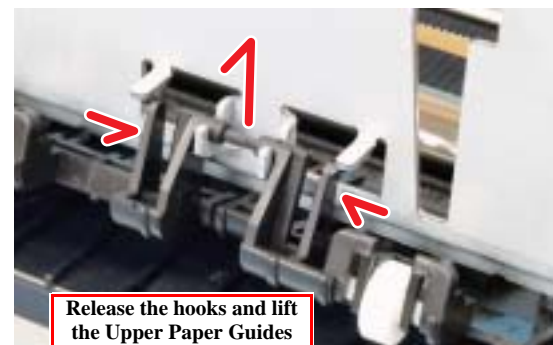

Figure 4-79. Removing the Upper Paper Guides
5. Release the hooks (x3), release the Upper Paper Guides from the shaft holders of the printer frame, lower the actuator of the PE Sensor, and remove the Upper Paper Guides. (Fig. 4-79)